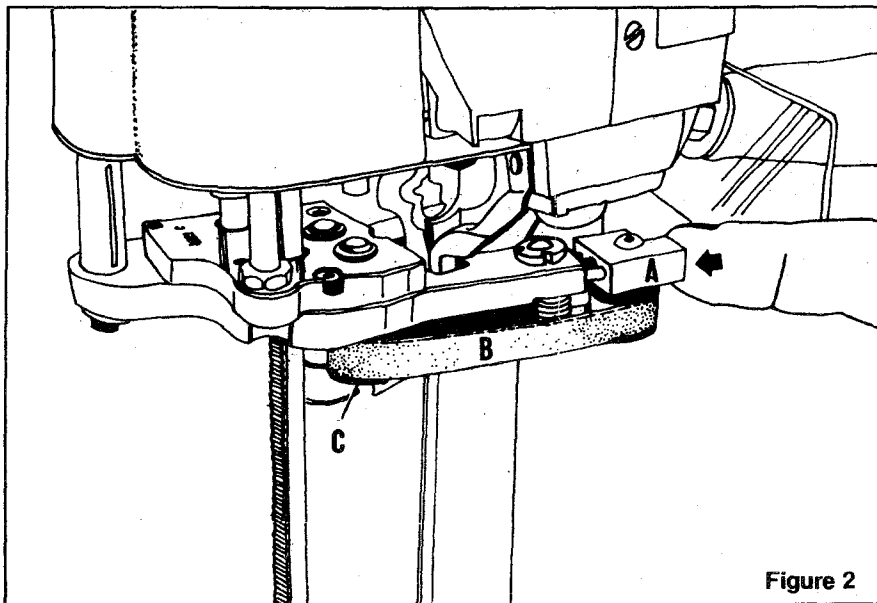

Figure 2
2.5 TO CHANGE FLEXIBANDS (Figures 2 and 3)
a) Figure 2: Push Block "A" to release right (upper) FlexiBand "B." Remove FlexiBand from Block and then from Drive Pulley "C."